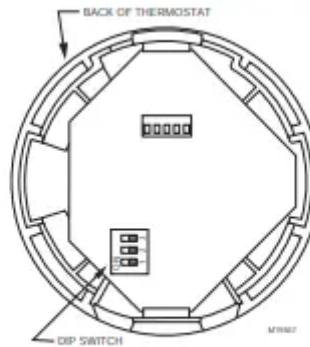

Fig. 8. DIP switch.
- To adjust the heat cycle rate or the Fahrenheit/Celsius indication, locate DIP switch 1, 2 and 3 on the back of the thermostat. See Fig. 8.